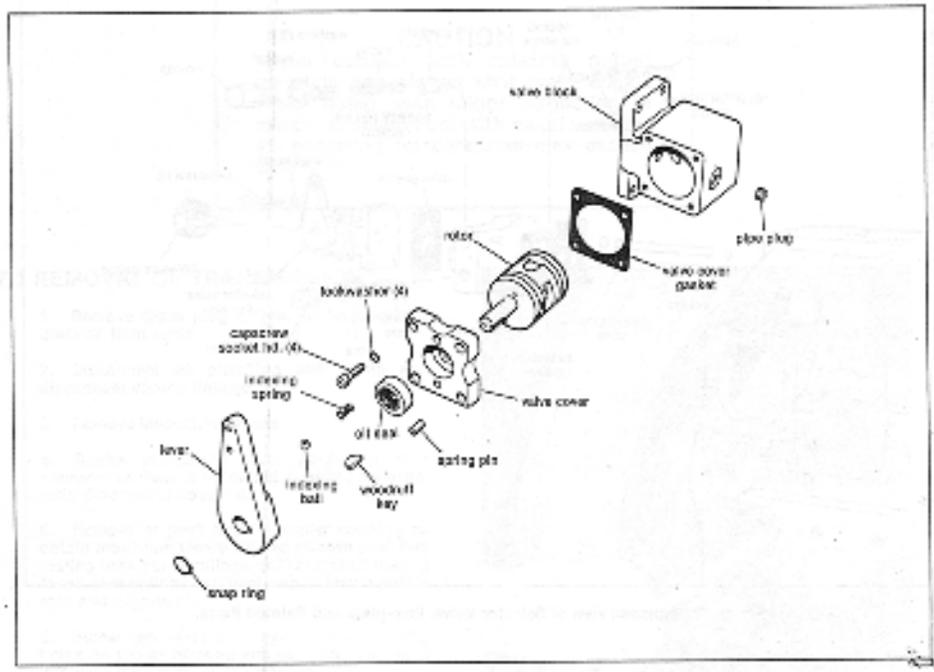

Figure 21. Exploded View of Selector Valve Assembly.
3. Set key in rotor shaft and install lever with indexing ball and spring. Make sure that keyway in rotor shaft remains toward the side of cover as shown in figure 21.